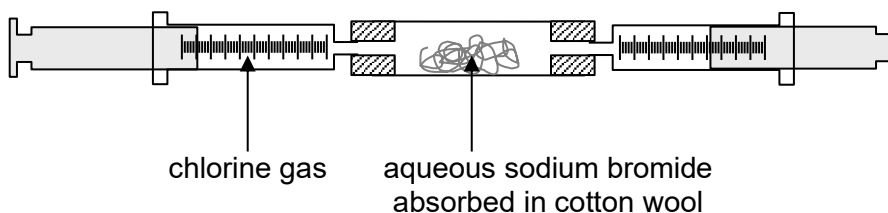

Fig. 2.1
- 2 A sample of chlorine gas is placed in a gas syringe. It is connected to a glass tube that contains aqueous sodium bromide absorbed in cotton wool as shown in Fig. 2.1.